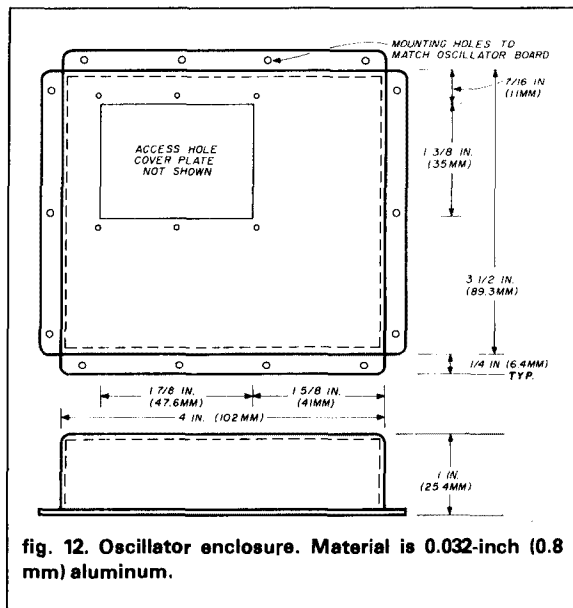

fig. 12. Oscillator enclosure. Material is 0.032-inch (0.8 mm) aluminum.
The mechanical details of the aluminum shield cover that encloses the uhf oscillator are shown in fig. 12. The 2-56 (M) screws used to mount the shield cover on the board also interconnect the groundplane foils on opposite sides of the board. Since initial tests will be made without the enclosure, it will be necessary to insert the screws and temporarily secure them with nuts to simulate the grounding condition.